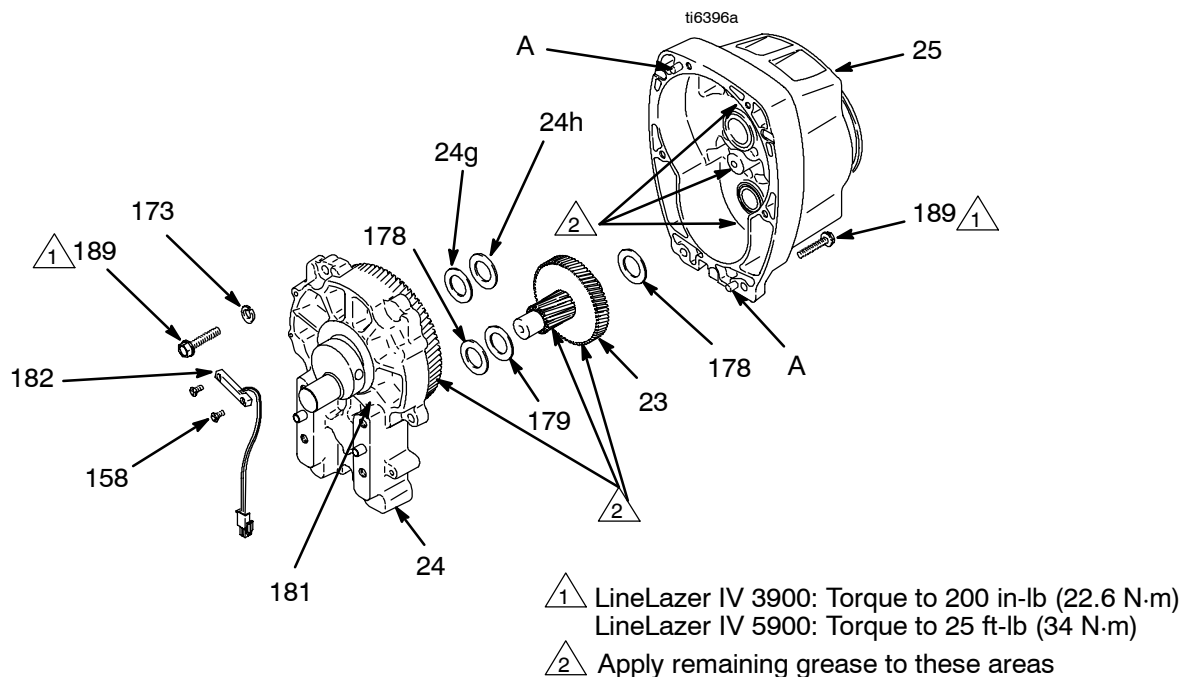

Fig. 3
2. Fig. 3. Remove bearing housing. Do **Bearing Housing and Connecting Rod** procedure on page 10.
3. Remove two screws (158) and reed switch (182).
4. Remove six screws (189) from pinion housing (25).
5. Lightly tap around drive housing (24) to loosen drive housing. Pull drive housing straight off pinion housing. Be prepared to support gear cluster (23), which may also come out.
1. Liberally apply bearing grease (supplied with replacement gear cluster) to gear cluster (23) and to areas called out by note 2.
2. Place bronze colored washer (24g) on shaft protruding from large shaft of drive housing (24). Place silver colored washer (24h) on pinion housing. Clean mating surfaces of pinion and drive housings. Align gears and push new drive housing straight onto pinion housing and locating pins (A).
3. Install six screws (189). Torque evenly to note 1 value in Fig. 3.
4. Install reed switch (182) with two screws (158).